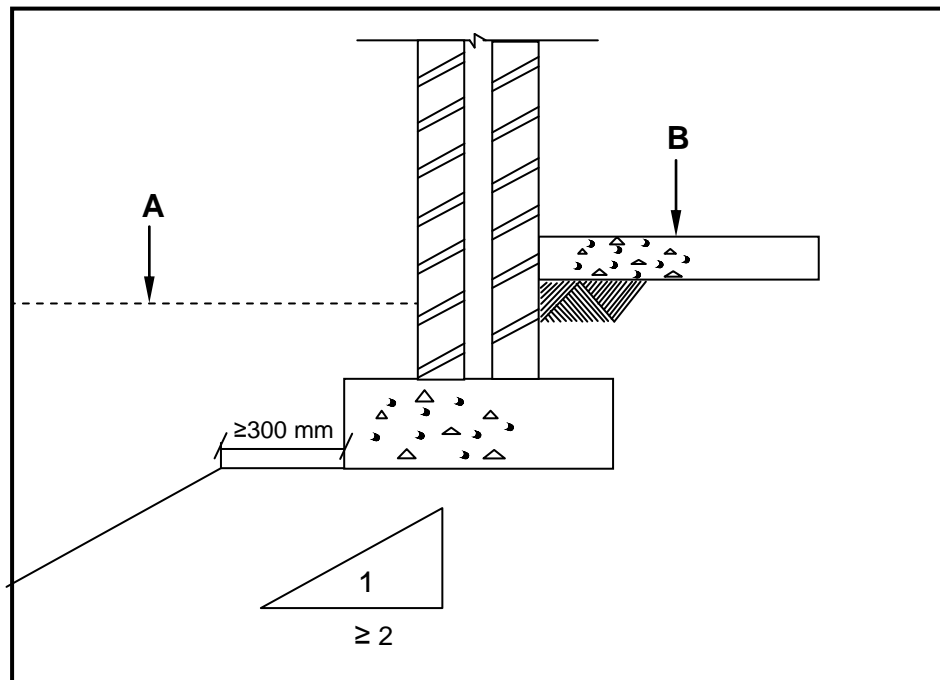

FIGURE 3.1
- 3.1 FIGURE 3.1 below is a drawing of a temporary excavation exposing the existing foundations. Study the drawing and answer the questions that follow.